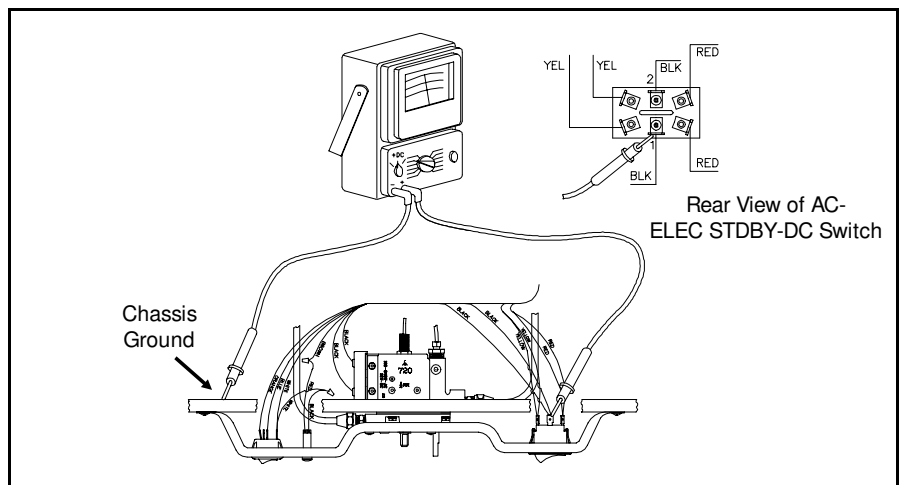

Figure 3.45 12 Volt Check at Switch's Center Contacts
8. Check for 12 Volts at Point 1 and ground and Point 2 and ground at switch as shown in Figure 3.45. Normal readings should show 12 Volts on both terminals. If 0 Volts are read, check wiring connections.